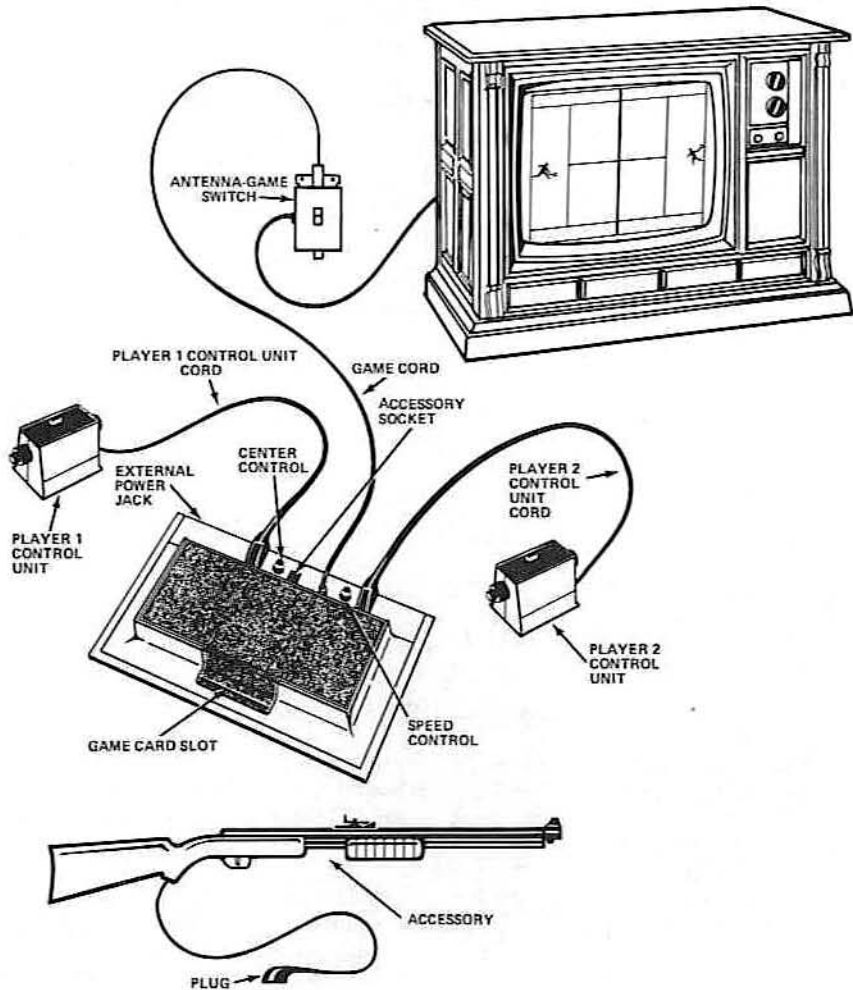

Figure 3 - Odyssey Game Setup With Rifle Accessory
The Odyssey game is connected as shown in Figure 3. The
1. Plug the Player Control Unit cables into the Master Control Unit as illustrated in Figure 3. The two Player Control Units are identical; however, the Player Control Unit connected to the PLAYER 1 socket will be called Player Control Unit Number 1 and the one connected to the PLAYER 2 socket will be called Player Control Unit Number 2.